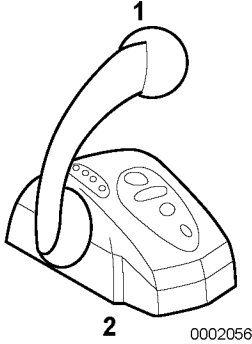

Figure 1
3. Set the control lever on the control head (Figure 1, (2)) in N (neutral) (Figure 1, (1)) position.